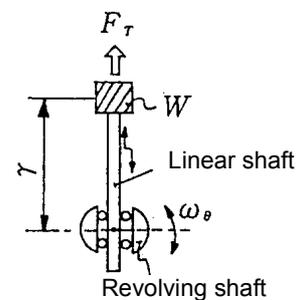

Fig. 2-18 Centrifugal force
On an object (W) on the revolving shaft, centrifugal force (F_T) occurs from center to outside in proportion to the square of revolving shaft angular speed (ω_θ) and the revolving radius (r) (Fig. 2-18)
* On fig. 2-18, linear shaft supports centrifugal force.